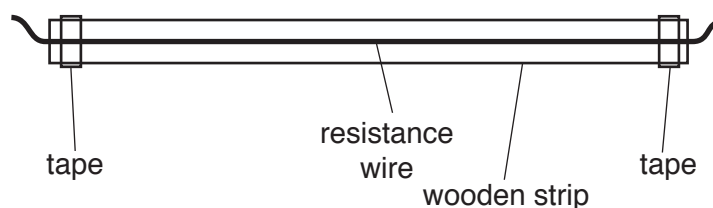

Fig. 1.1
- The resistance wire should be attached to the wooden strip with adhesive tape (e.g. Sellotape), as shown in Fig. 1.1.